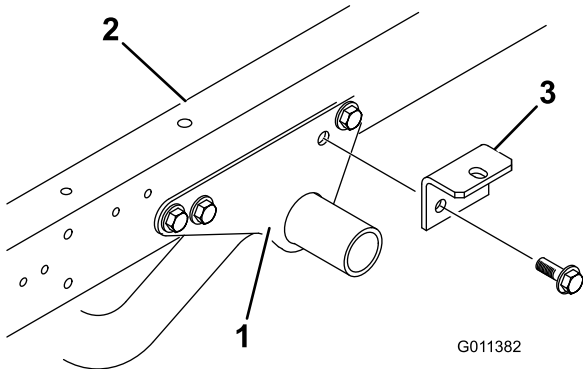

Figure 5
1. Remove 2 flange-head cap screws and flange locknuts securing rear of each engine frame mounting bracket to each side of vehicle frame (Figure 5).
2. Loosely secure a attachment bracket to each engine frame mounting bracket and vehicle frame with (2) flange-head cap screws and flange locknuts previously removed (Figure 5).